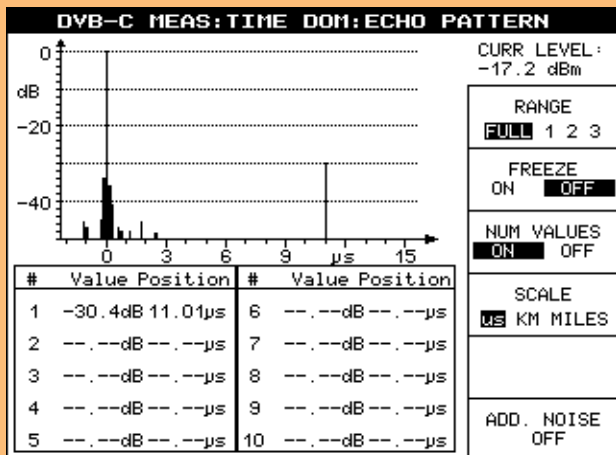

Fig. 8: Echo pattern
- ◆ Received echo signals (Fig. 8)